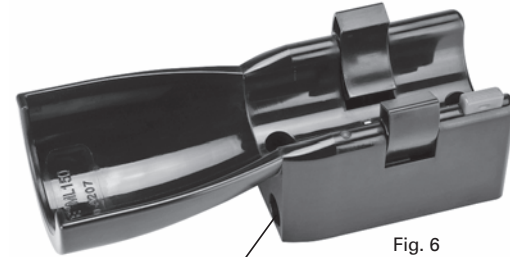

Fig. 6
2. Attach end of DC power cord or AC converter to charging cradle by inserting round plug into power connection port in the side of the charging cradle (Fig. 6, 7 & 10).